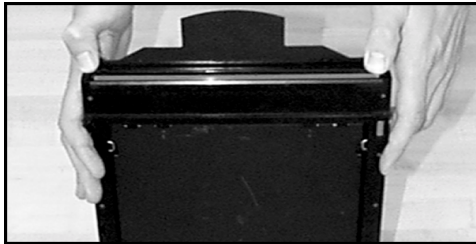

Figure 8
1. Take cassette with exposed film and release the pressure plate by depressing pressure release bar located next to the film tab. (*Figure 8*)